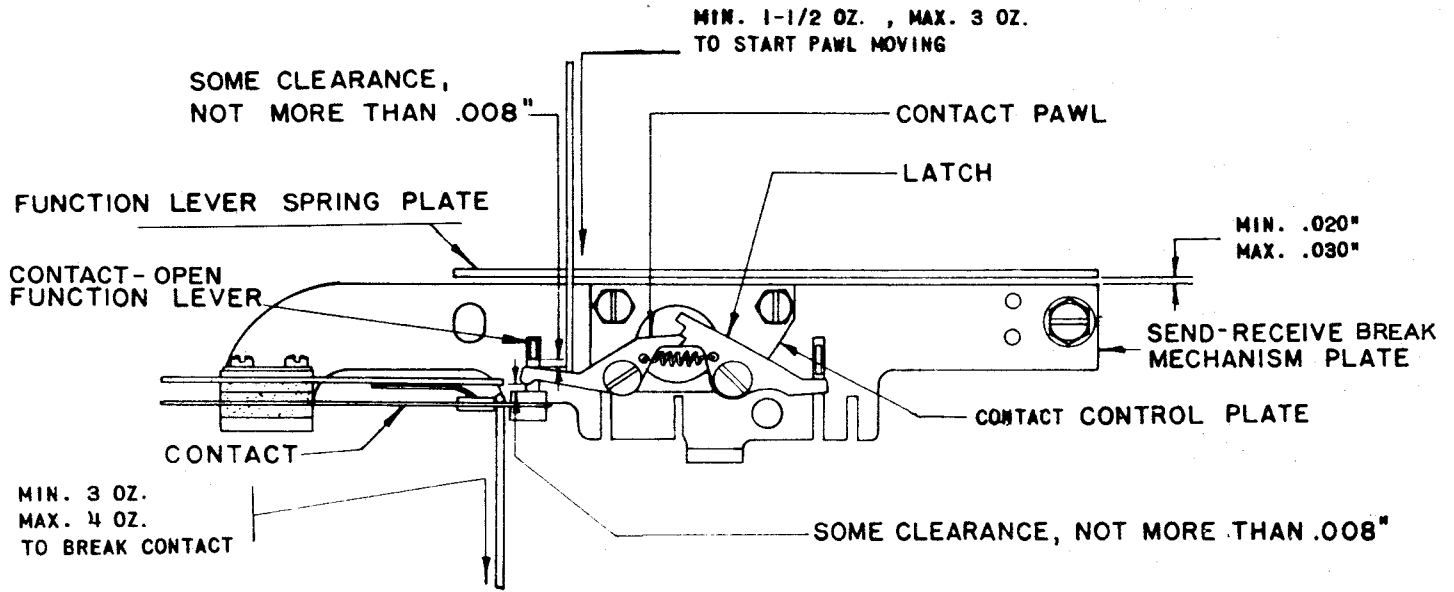

Figure 1
2.01 These sets of parts provide the 15 typing unit with a mechanism for remotely controlling an operation by a contact mounted on a special send-receive-break-mechanism plate. One selected upper-case character closes the contact. Another upper-case character opens it. The universal function-levers can be modified to operate on any selected characters. See Figures 1 and 2.
(a) On units not equipped with universal function-levers, the send-receive-mechanism plate should clear the function-lever-spring plate by minimum 0.020 inch, maximum 0.030 inch at both ends. See Figure 1.
2.10 Contact-control Plate: Set up the Blank selection on the vanes (all spacing) and rotate the main shaft until the function-levers rest against the vanes. There should be some clearance, not more than 0.008 inch as shown in Figure 1, between the horizontal arm of the contact-pawl and its function-lever when the pawl is in the lower notch of the latch. There should be some clearance, not more than 0.008
- (1) There should be some clearance, not more than 0.008 inch between the bakelite insulator on the lower contact-spring and the contact-pawl, with the pawl in the lower notch of the latch. See Figure 1.
- (2) A pull of minimum 3 ounces, maximum 4 ounces should be required at the contact-point to open the contact under the same conditions as in (1). See Figure 1.
2.12 Contact-pawl Spring tension should be minimum 1-1/2 ounces, maximum 3 ounces, to just start the pawl moving, pushing down with the scale at the right-hand end of the horizontal portion of the pawl, holding the contact clear of the contact-pawl and with the horizontal arm of the contact-pawl in its upper position. See Figure 1.
3.09 This device provides switching contacts mounted on the send-receive-mechanism plate which are closed momentarily by the H function-lever in slot 13 when a FIGS H signal is received. While the contact assembly and the adjustments are different, the location of the contact assembly is the same as the location of the contact assembly shown in Figure 1.